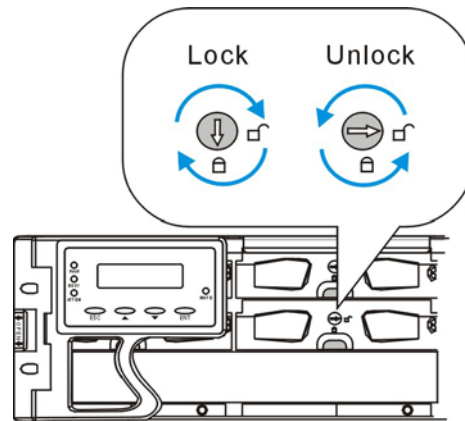

Figure 5-13: Drive Tray Key-Lock Rotation
- Step 3. **Remove the drive tray.** To remove the drive tray from the enclosure, the key-lock must be unlocked. (See **Figure 5-13**) To do this, turn the key-lock on the front of the drive tray until the groove on its face is in a horizontal orientation.